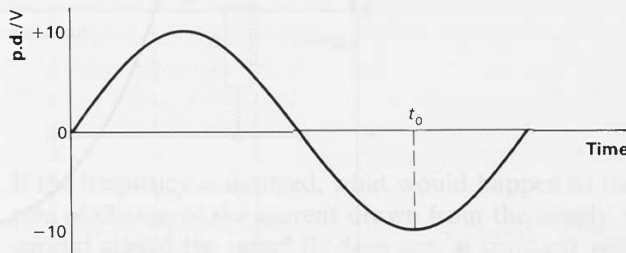

Figure H102
- 50(L)** The curve in figure H102 shows one cycle of a sinusoidal variation of the p.d. V across a $100\ \mu\text{F}$ capacitor.